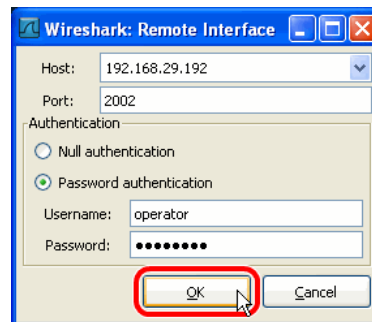

Figure 183: Wireshark Remote Interface Dialog.
4. Enter the correct settings for **Host** and **Port** (default 2002) and, if authentication is enabled, enter **Username** and **Password** in the corresponding fields as shown in Figure 183.